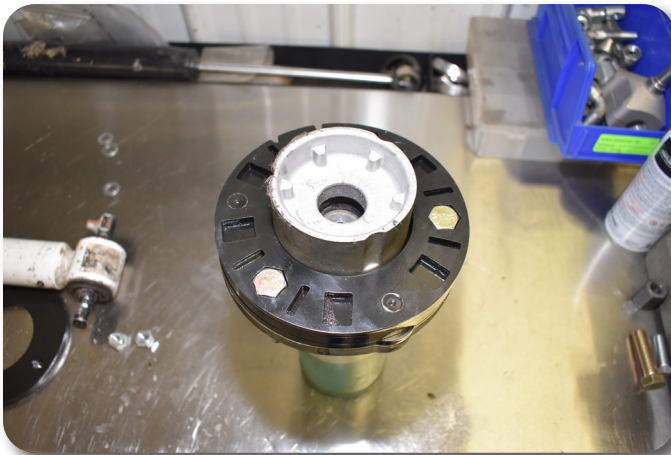

Figure 11A
15. Install the preload spacer on to the upper strut mount. The bolt holes will only line up one way **Figure 11A**. Install the coil spring plastic isolator on to the preload spacer **Figure 11B**. The plastic isolator can only install one way.